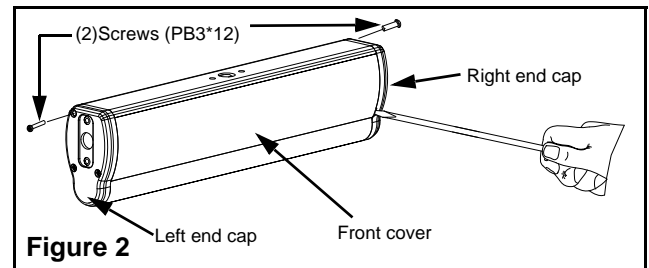

Figure 2
4. Remove 1 screw (PB3*12) from the top of the left and right end caps (see figure 2).